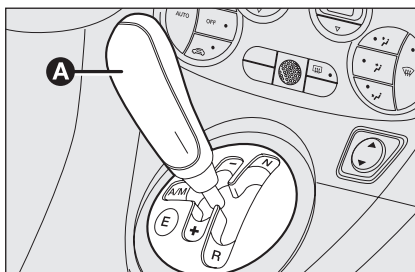

fig. 1
- ☐ Push the gear lever **A-fig. 1** towards (+) to engage first gear (if starting from **N** or **R** simply move the lever to the central position) or **R** to engage reverse.
- ☐ Push the gear lever **A-fig. 1** in **A/M** to engage the automatic mode or in **R** to engage reverse
The selection of the gear and the operating mode (**MANUAL** or **AUTO**) is made using the control lever **A**- fig. 1 in the centre console.